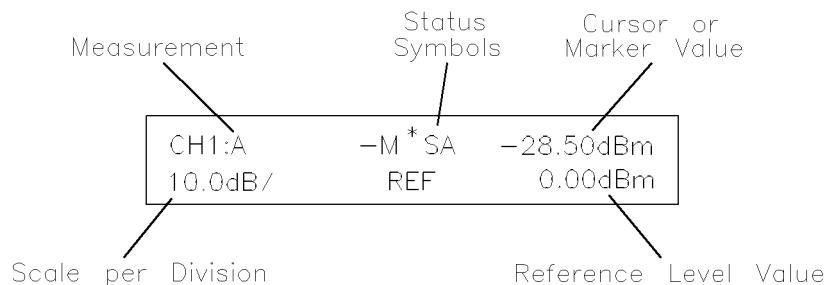

Figure 1-3. Mode Labels Description
① **Mode Labels** Figure 1-3 shows each part of the mode labels area. For each channel turned on, this area shows the following: